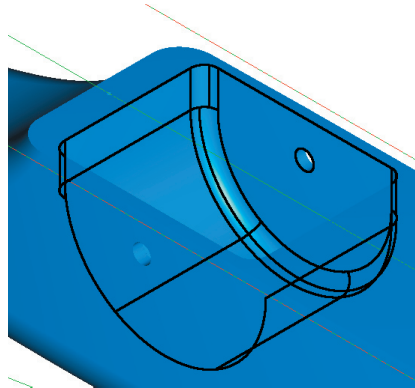
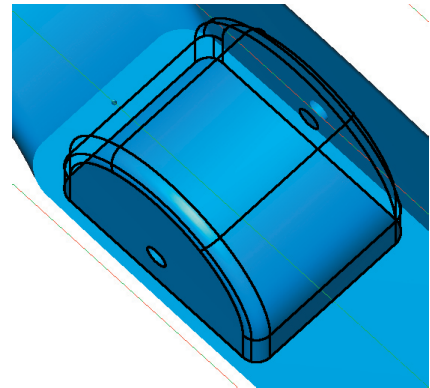

Fig. 37
Fig. 38
Step 4. Click all the surfaces inside the wheel cutout. The edges will highlight when selected, Fig. 37. Use **Alt** key and **Down arrow** key to rotate view to select all surfaces, Fig. 38.